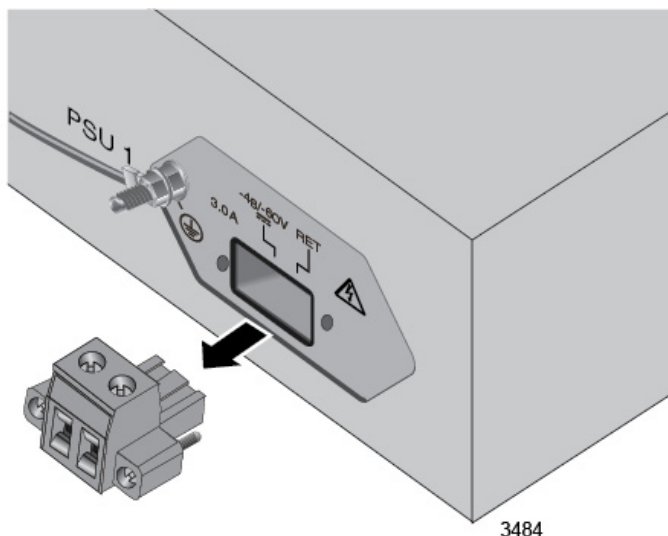

Figure 34. Removing the DC Connector
3. Slide the DC connector from the chassis. Refer to Figure 34.